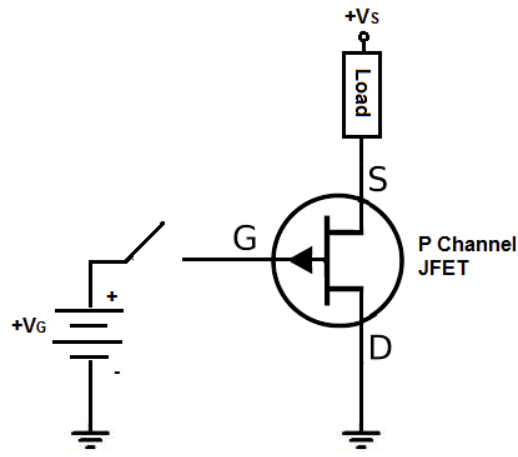

Figure 9: Circuit for plotting  $I_D$  vs  $V_D$  and transfer characteristics of p-channel JFET (J176)
1. Connect the circuit as shown in figure 9. Keep  $V_S = 10$  V constant.
1. Connect the circuit as shown in figure 9. Keep  $V_G = 15$  V constant.